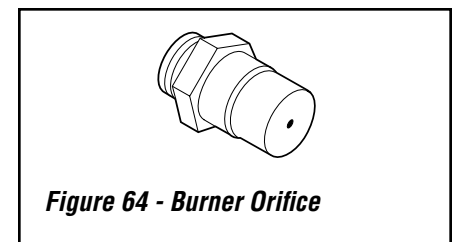

Figure 64 - Burner Orifice
Step 8. (Refer to **Figure 64**)
Remove the burner orifice from the manifold and replace it with the one provided with the kit. See **Table 10** for orifice sizes required for use with natural gas or propane gas. **Figure 64** illustrated the orifice. Use pipe joint compound or Teflon tape on all pipe fittings before installing (ensure propane resistant compounds are used in propane applications, do not use pipe joint compounds on flare fittings).